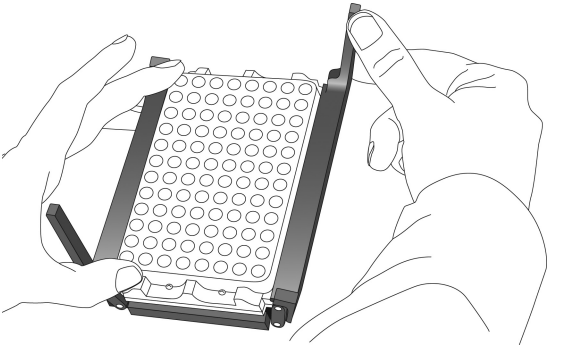

Fig. 3. Securing the leg assemblies over the reservoir.
4. Stabilize the bioprocessor against the bench with one hand to prevent it from tipping. Lift the hinged leg assembly and place it over the reservoir (which has been assembled into the base clamp assembly). Ensure that both of the leg assemblies sit over the edge of the reservoir before attempting to close the assembly as shown in Figure 3.